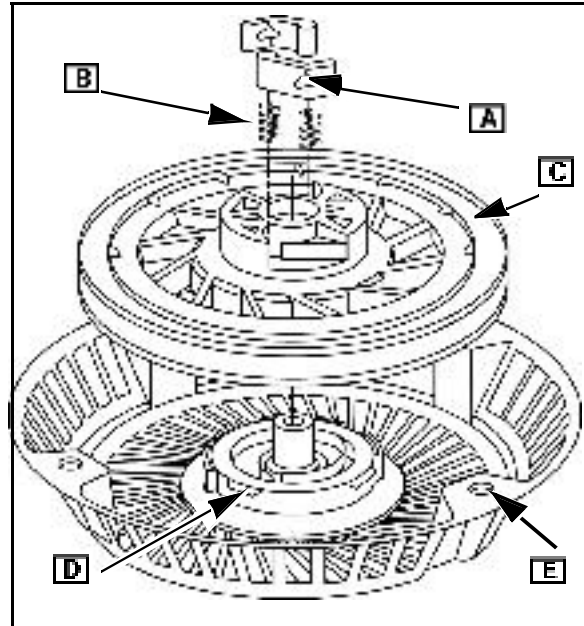

Fig. 12
10. Lift out pulley. The starter spring cup (D) will normally remain in starter housing (E) Fig. 12).